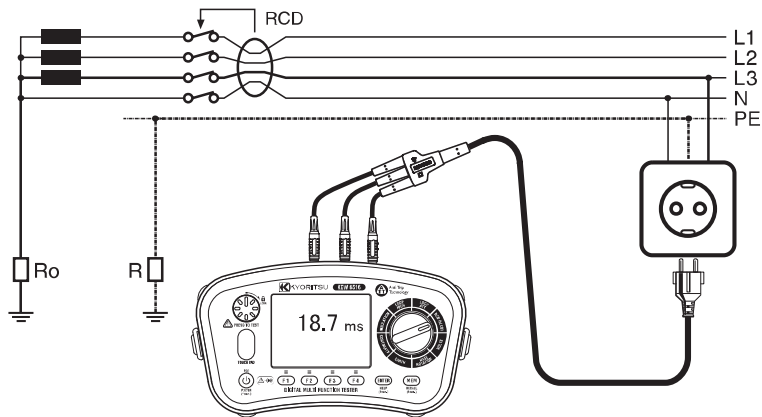

Fig. 11-1
In Fig. 11-1, when grounding is incomplete and R exists, voltage occurs to R if fault current flows in R . Person may touch this voltage, and the voltage occurs to a person at this bout is called as U_c .
(7) Connect the test leads to the circuit to be tested. (Fig. 11-1,11-2, and 11-3)
(8) Wiring Check